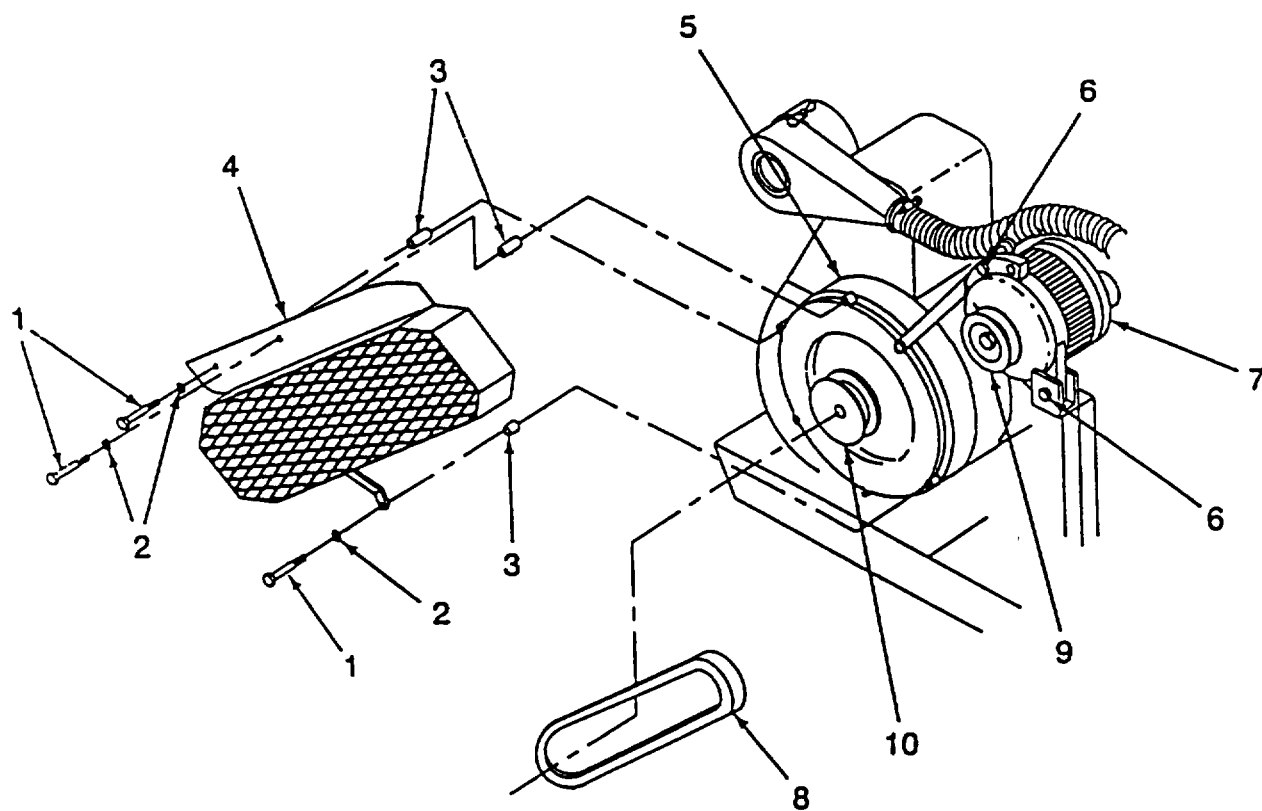

Figure 4-22. Alternator Belt
(1) Removal. (Refer to Figure 4-22).
- (a) Remove three cap screws (1), three lockwashers (2), and three spacers (3) from alternator belt guard (4). Discard three lockwashers (2).
- (b) Remove alternator belt guard (4) from engine housing (5).
- (c) Loosen two cap screws (6) from alternator (7).
- (d) Slide alternator (7) forward to loosen alternator belt (8).
- (e) Remove alternator belt (8) from alternator pulley (9) and engine pulley (10).
(2) Installation.